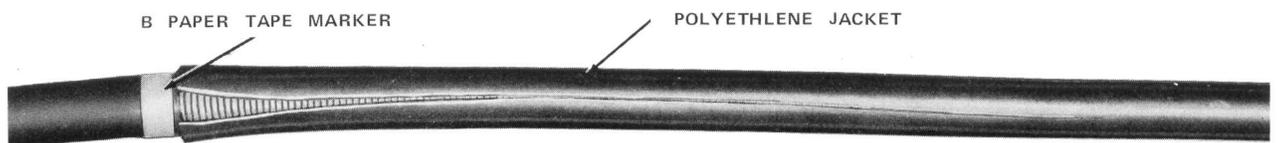

Fig. 6—Removing Polyethylene Sheath
*Note:* For clarity, only the left-hand cable is shown in Fig. 6 and 7. Prepare the right-hand cable in a similar manner.
4.02 Mark, cut, and remove the polyethylene jacket as shown in Fig. 6.